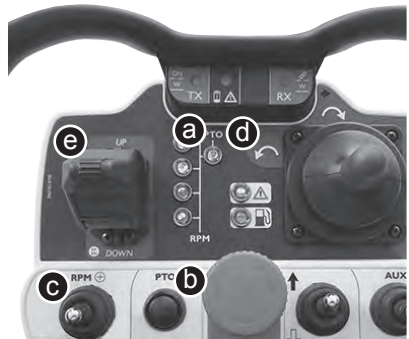

Fig 15
5.7 PTO (Mowing blade - switching ON) (Fig 15)
Adjust the engine speed by the throttle (c) over the 2800 rpm (green leds (a) - Fig 15). With the green light it is possible to start the PTO by pressing the button (b).
5.8 CUTTING HEIGHT ADJUSTMENT (Fig.15)